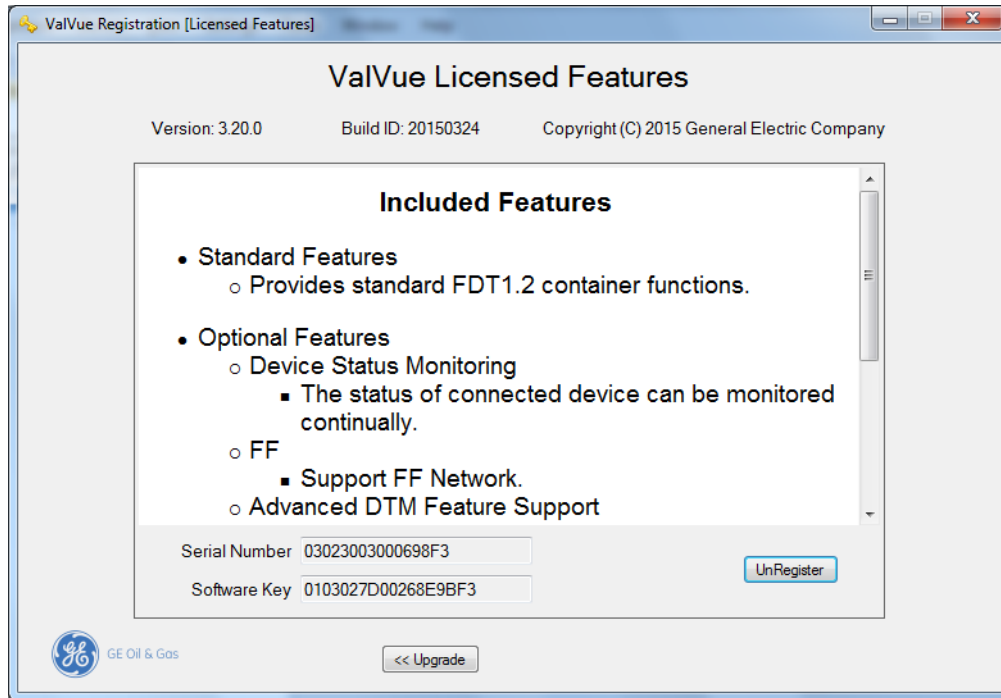

Figure 10 Included Features
1. Select **Tools > ValVue Licensing** and Figure 10 appears.